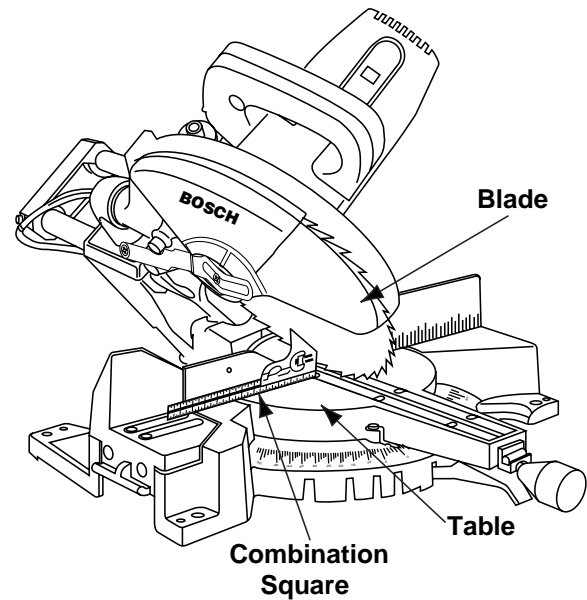

Figure 8. Blade 45° To The Table
4. Loosen bevel lock handle and tilt the head assembly to 45° bevel. Check the 45° bevel stop. The bevel indicator should be on the 45° mark, the 45° bevel stop should be in full contact with the 45° bevel stop screw, and the blade should contact the full length of the combination square (Figure 8).